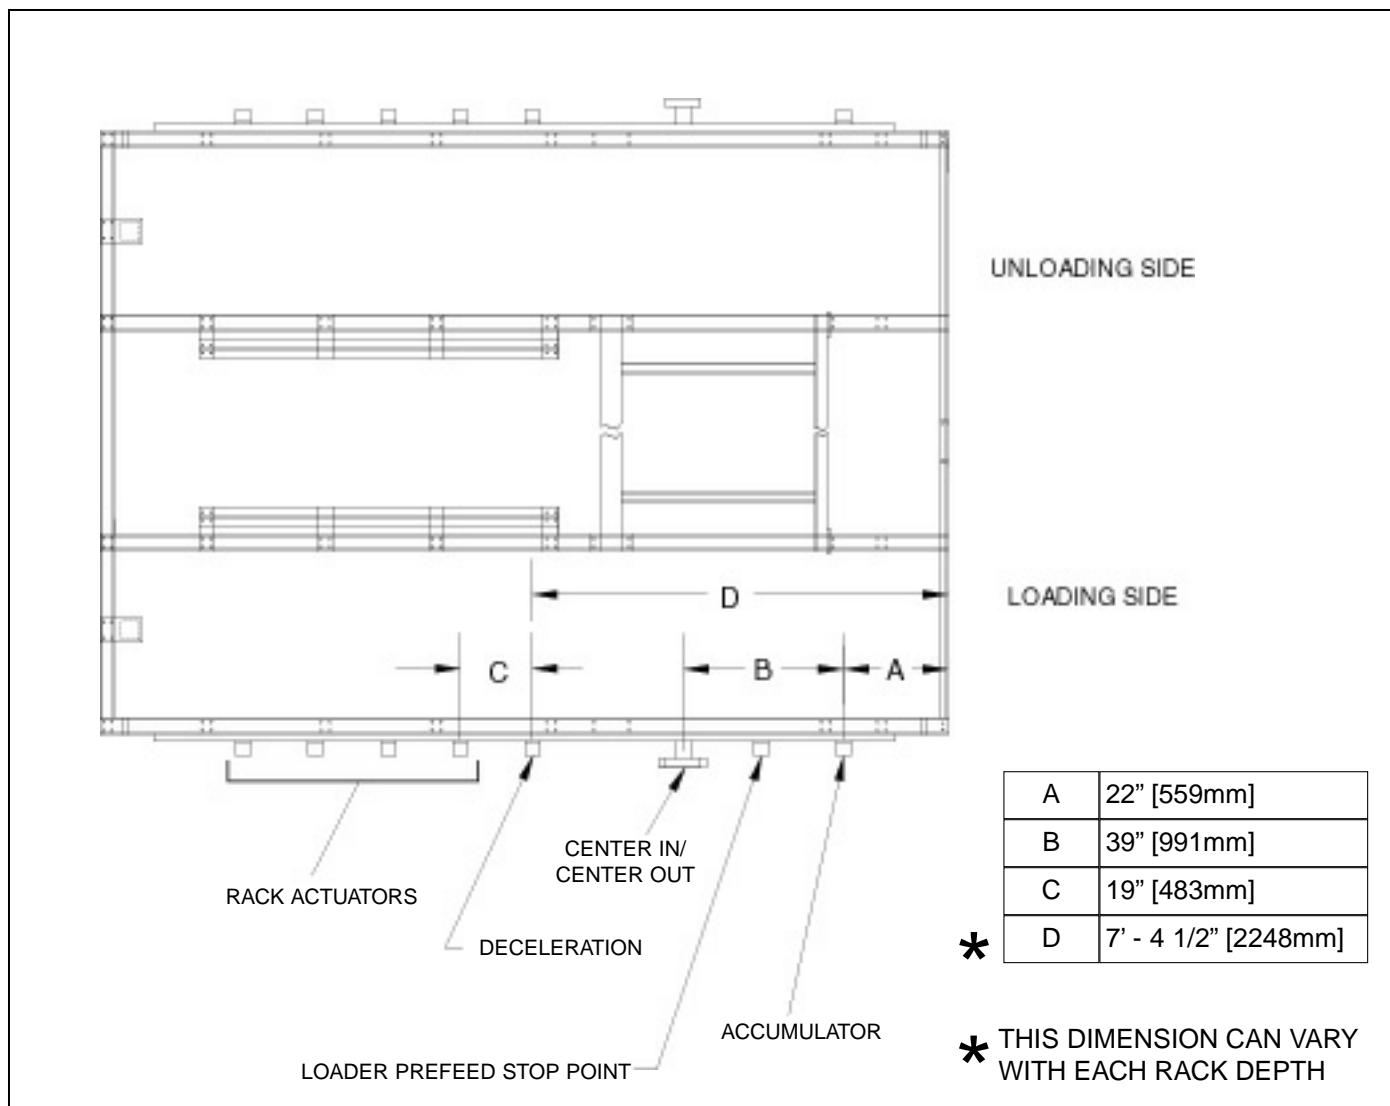

Figure 2.6 FRAME ACTUATORS ON LOADING SIDE (VIEWED FROM ABOVE).
2.1.5.3 Set all actuators according to dimensions shown in figure 2.6 and on frame drawing supplied.